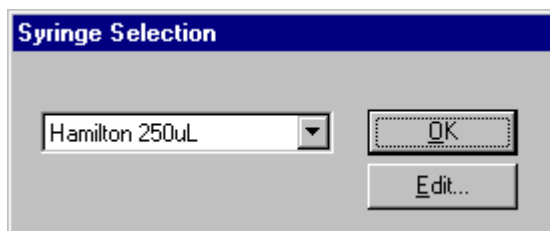

Figure 3-4 Syringe Selection Dialog Box
- Select **Options > Syringe Type**. The Syringe Selection dialog box appears (Figure 3-4).